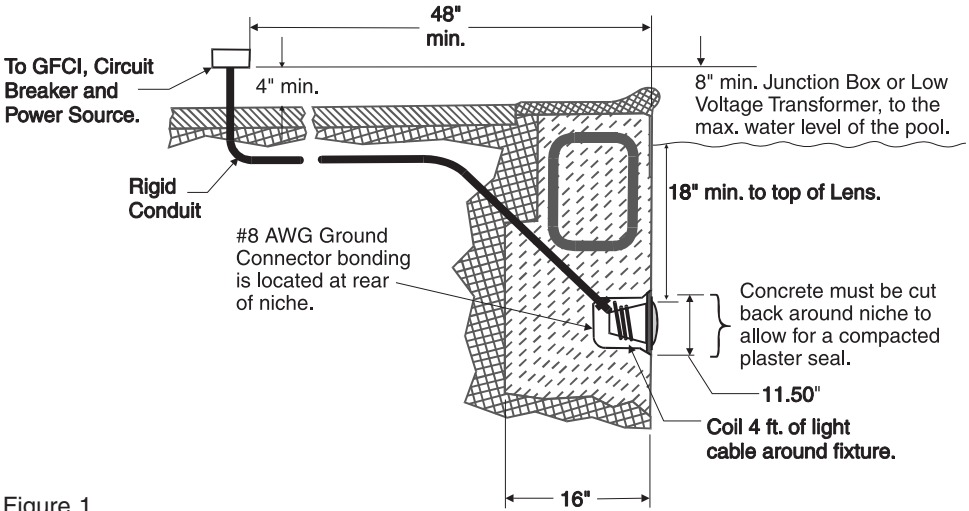

Figure 1.
- The Junction Box (or, for **12 volt models**, the low voltage transformer) is located at least eight (8) inches (20.3 cm) above ground level and at least 48 inches (1.219 m) from the edge of the pool; see Figure 1 on page 7.
- The light fixture and all metal items within five (5) feet (1.524 m) of the pool are properly electrically bonded.
- The wet niche is properly installed so that the top edge of the underwater light's lens is at least 18 inches below the surface of the water in the pool; see Figure 1 on page 7.
- The wet niche is properly electrically bonded and grounded via the No. 8 AWG ground connector located at the rear of the niche; see Figure 1 on page 7.
6. Leave at least four (4) feet of cord to coil around the light fixture; see Figure 1 on page 7. This four (4) feet (1.2192 m) of cord coiled around the light allows the light to be serviced after the pool is filled with water.
7. Cut the cord at the Junction Box, leaving at least size (6) inches of cord to make connections.
8. Strip six (6) inches (15.2 cm) of the outer cord jacket from the cord to expose the three insulated conductors. Be careful not to damage the insulation on the three (3) inner conductors. Strip a 1/2" of insulation off the three conductors. Be careful not to damage the copper conductor.
**BEFORE STARTING:** The following steps 1-7 (page 7-8) describe the tasks that must be completed by the electrician before the IntelliBrite light fixture is installed. See Figure 1 diagram on page 7.
1. Route light cable through conduit to Junction Box, leaving at least four (4) feet of cable at the light fixture to coil around the light (this allows the light to be serviced after the pool is filled with water). See Figure 1 below.
**Note:** The IntelliBrite light lens ships from the factory in the 'WIDE' (W) angle position. The "wide" position of the lens is typically located either end of the pool. To use the "NARROW" angle light beam, rotate the lens/gasket to align the letter "N" on lens. The "narrow" position of the lens is typically located either side of the pool. Note: For more information about using the "WIDE" and NARROW angle lens, see page 14.
21. Coil at least four (4) feet of cord around the light fixture (see Figure 1 on page 7). This allows the light to be serviced after the pool is filled with water.